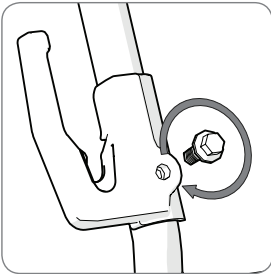

Fig 5
- Remove the two attachment bolts. **(Fig. 5)**